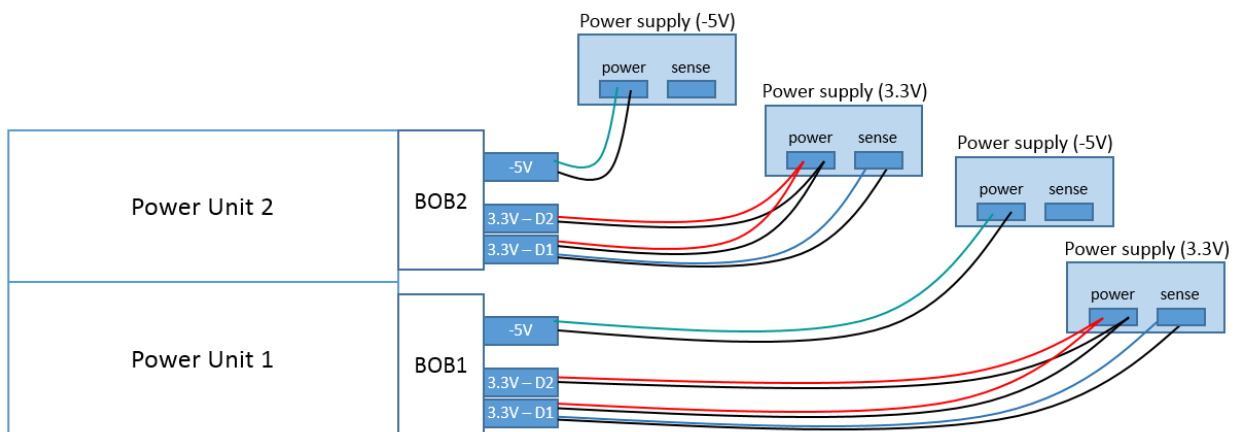
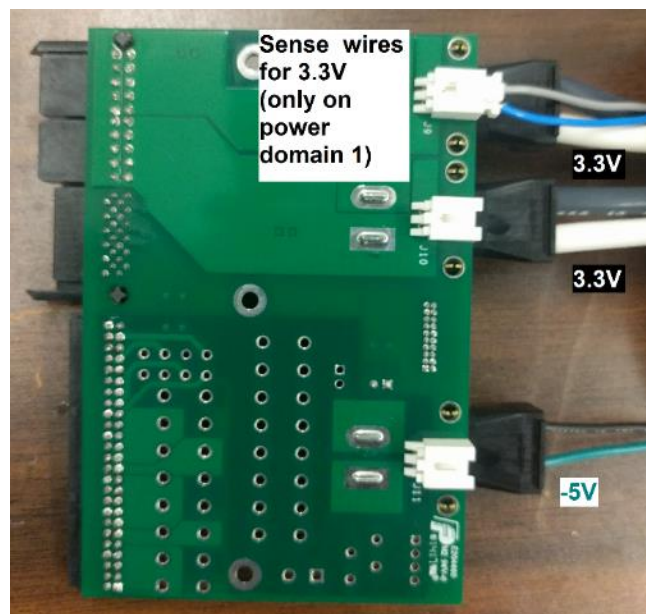

Figure 13: Configuration for power/sense wires at the input of the breakout boards
Figure 14: power unit sense wire configuration for endurance tests/stave testing
- 6) Connect each power and sense cable to the corresponding power supply (see Figure 13 for the scheme of connection and Figure 14 for an implementation):